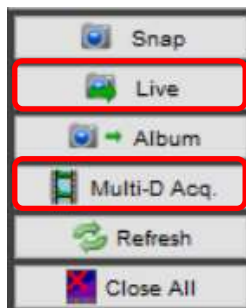
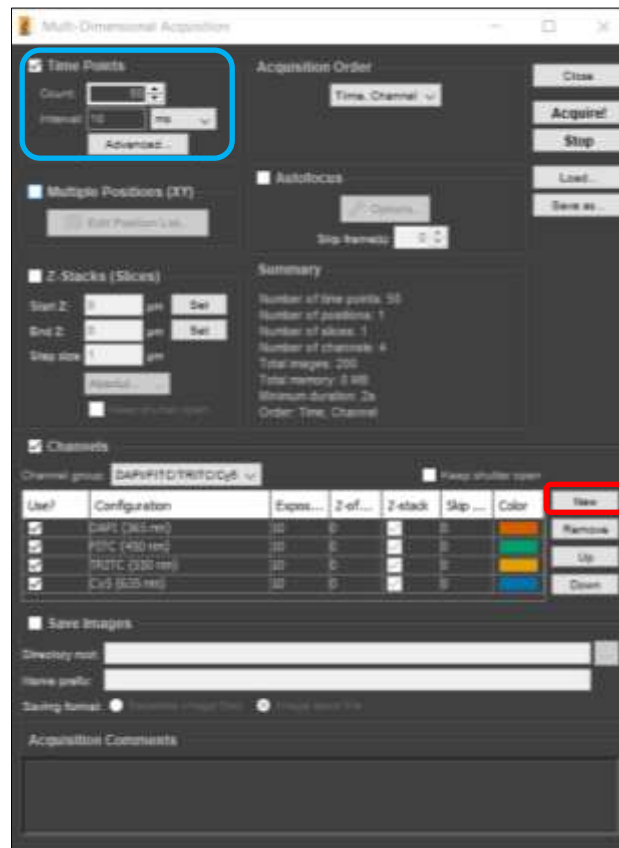

Figure 11: µManager Live and Multi-Dimensional Acquisition modes circled in red
Figure 22: Multi-Dimension Acquisition setup. Add new channel configurations (circled in red) and set time points (circled in blue)
10. Select Live mode (Figure 11) to begin live image acquisition.
1. Create a new Group by clicking the Group ‘[+]’ icon on the main screen (see Figure 11, circled in red). To control both channel selection and intensity, select all channel selection and intensity properties, and name this Group “DAPI/FITC/TRITC/Cy5”. Click ‘OK’.
4. Click 'Multi-D Acq.' (Figure 11) to enter the Multi-Dimensional Acquisition setup (Figure 22).
5. As in Figure 22, you will see DAPI/FITC/TRITC/Cy5 appearing in 'channel group'. Click 'New' (circled in red) to add a new preset from this group, until DAPI, FITC, TRITC and Cy5 are listed.